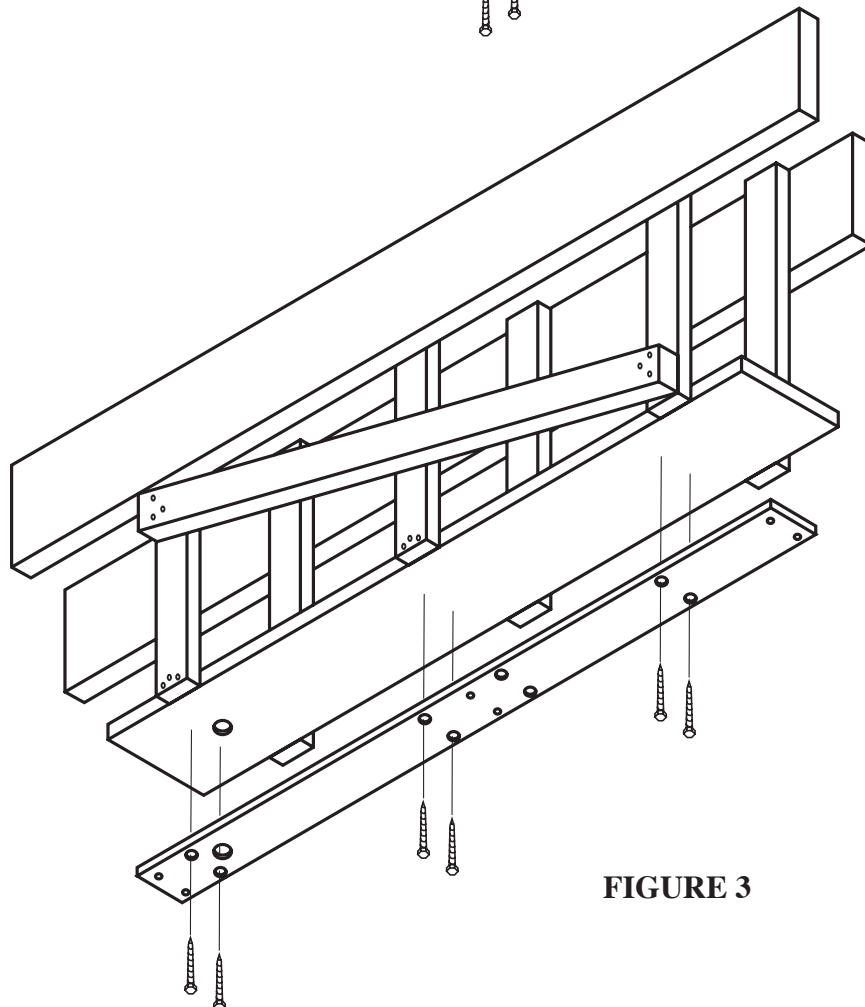

FIGURE 3
- C) For suspended ceilings, appropriate rigid structure must be attached to the ceiling framework to provide 90kg (200 lbs) dead weight capacity. (SEE FIGURE 3.)